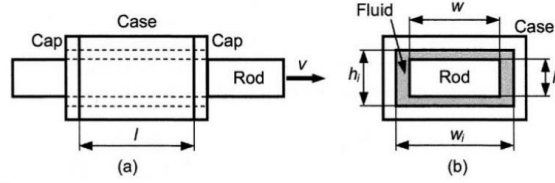

FIGURE 2.51
- 2.19** Figure 2.51 shows a translatory-motion bearing. It is formed of a rectangular cross-section rod placed symmetrically in and translating inside a similar box filled with viscous fluid. Calculate the total damping coefficient based on the geometric parameters shown in Figure 2.51 and the fluid dynamic viscosity μ .